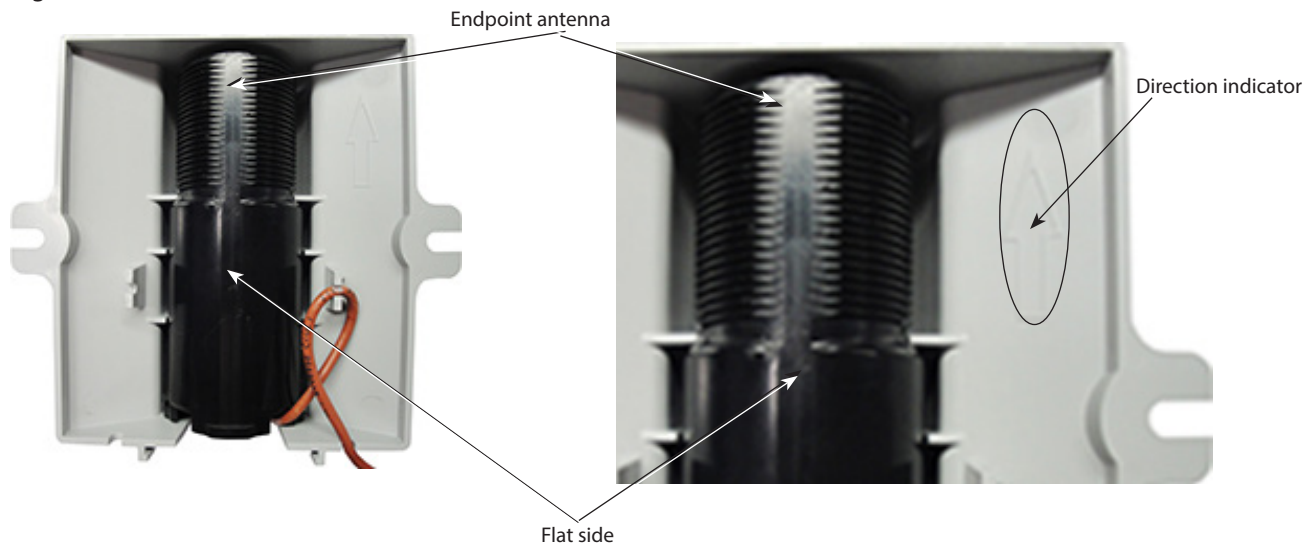

Figure 18: Endpoint orientation
2. Place the endpoint into the enclosure as shown in Figure 18. Make sure the flat side of the endpoint is facing out (toward the installer). Mount the endpoint antenna toward the top of the enclosure, using the endpoint alignment brackets.
NOTE: The arrow points up, indicating the endpoint position. See the close-up image in Figure 18.